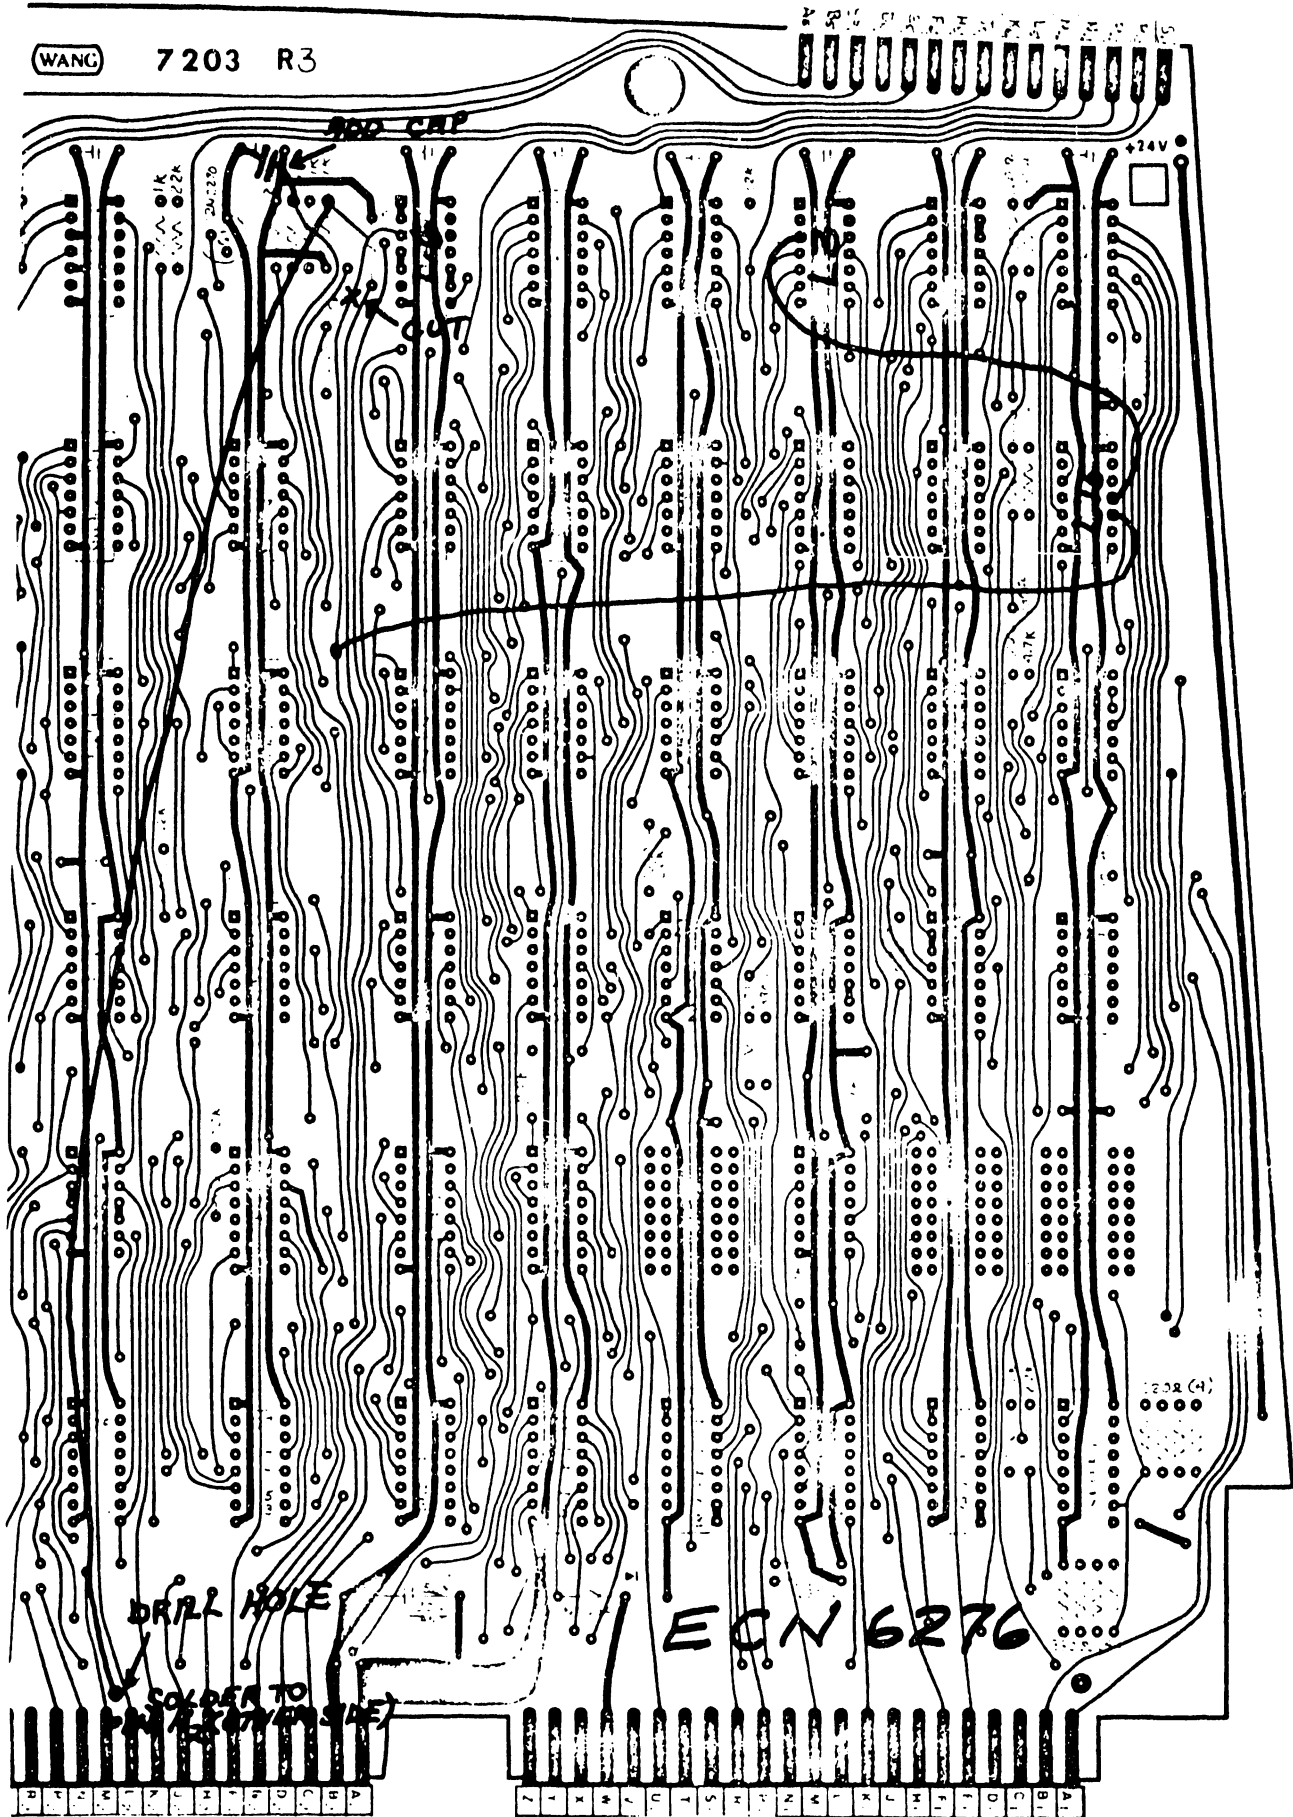

FIGURE 5-15
- 4) Add a jumper from L6-3 to 112. This requires drilling a small hole as indicated in Figures 5-15 and 5-16.